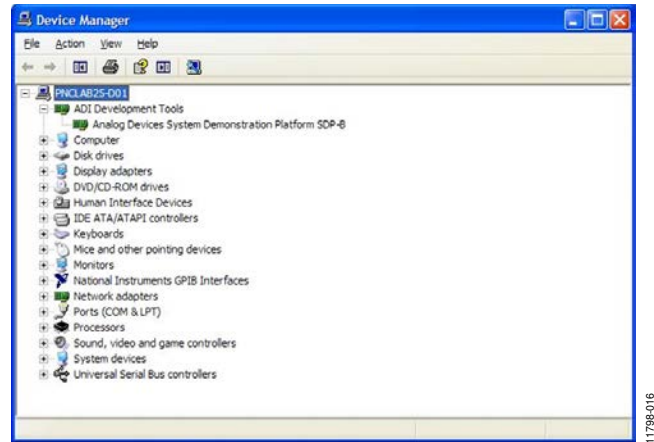

Figure 15. Device Manager: Checking that the Board Is Connected to the PC Correctly
- b. Under **ADI Development Tools**, **Analog Devices System Development Platform SDP-B** should appear (see Figure 15), indicating that the EVAL-SDP-CB1Z driver software is installed and that the board is connected to the PC correctly.